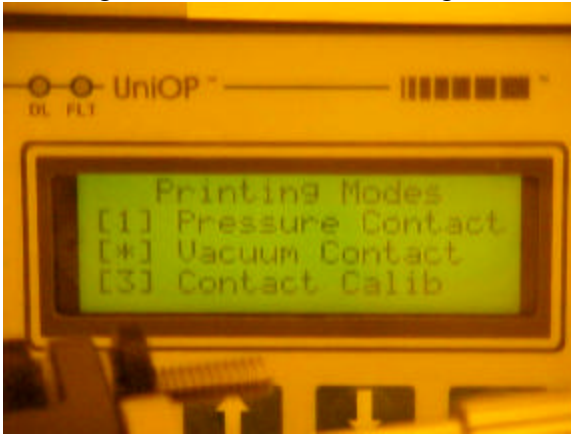

Figure 7. Printing Modes Screen
5. Press “2” to go to the “PR (printing) Modes”. Next, select “2” for “Vacuum contact printing mode” (Fig. 7). **[PLEASE DO NOT USE OTHER MODES. IF YOU NEED OTHER PRINTING MODES, PLEASE GET AN APPROVAL FROM THE CLEAN ROOM MANAGER].** The menu shows “*” once it is selected (Fig. 7).